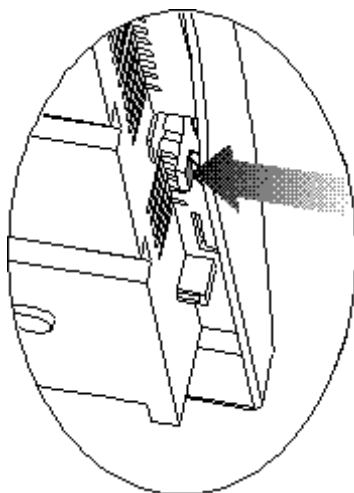
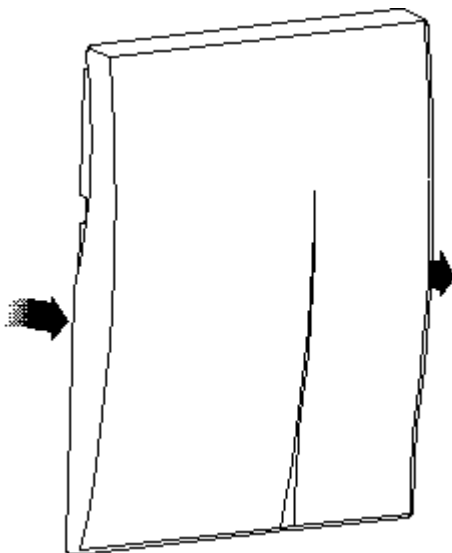

Figure B-2
Figure B-3
- 5) Open the front cover by pressing the latches on the left and right sides (see Figure B-2) and pulling the front cover (see Figure B-3).